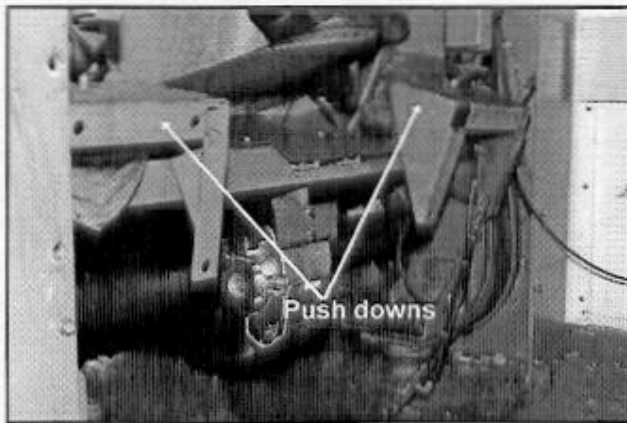

Figure 1
- a. Unbolt and remove both push downs on the right side of the machine (see figure 1).